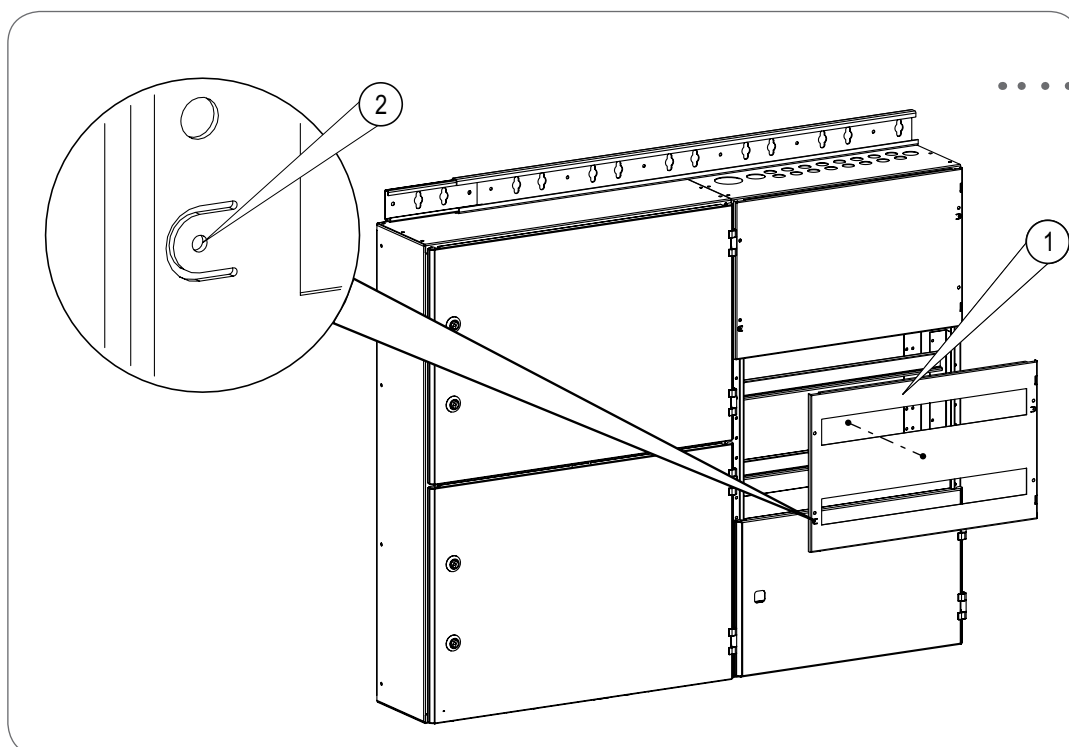
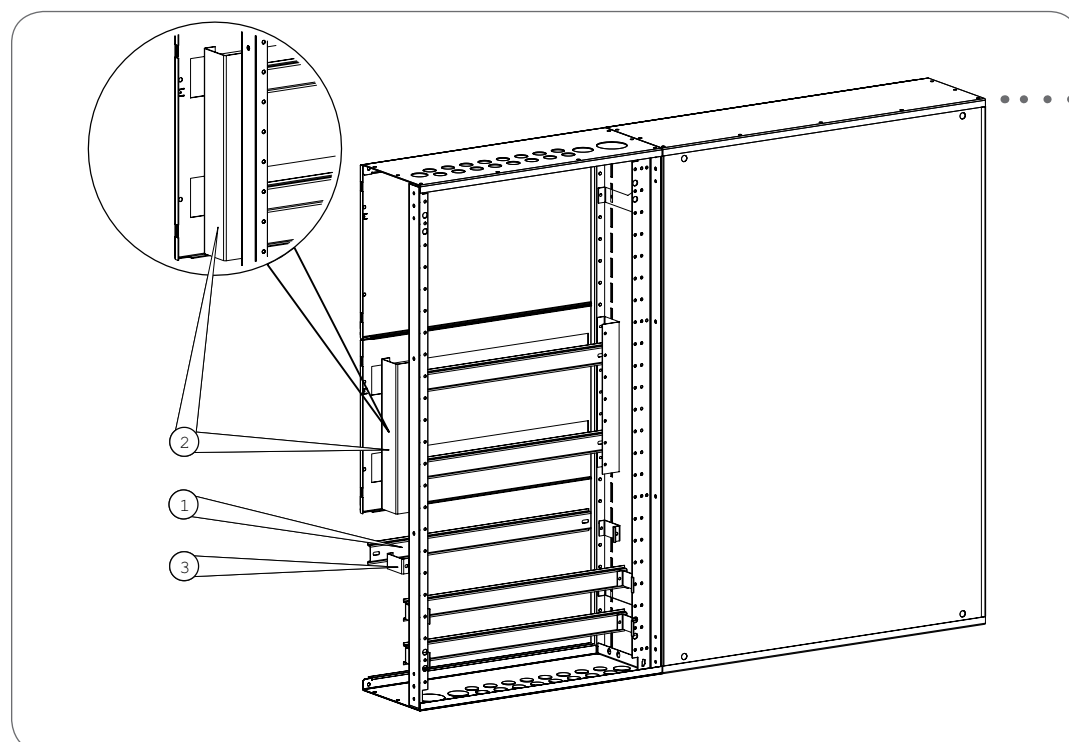

Fig 8.7.1 Installing covers to frame structure. The cover can be fastened using screws or screws and hinges. The cover can also be sealed.
Fig 8.7.2 Fastening installation rail for DIN rails to side plate and front profile.
The F-series covers (1) are fastened with either 4.8x25mm plate screws or hinges on one side. The covers can also be sealed using the sealing lug (2) of the cover. Installation of covers to the frame structure is shown in Fig. 8.7.1.
Spacers and installation rails are used for components with DIN rail mounting. Installation rails are fastened with screws to the front part of the side plate and front profile as shown in Fig. 8.7.1. The installation rails are dimensioned so that they fit under 280 mm and 420 mm high covers. Figure 8.7.2 shows a sectional view of an application of installation rail and DIN rail. The other parts in Fig. 8.7.2 are side plate, cover, and front profile.